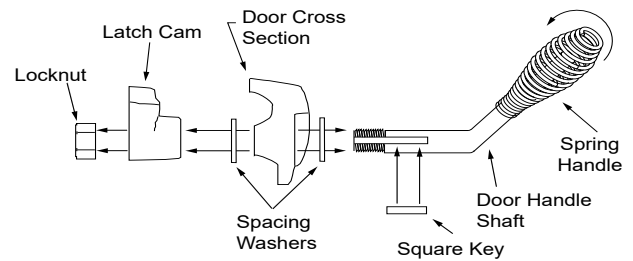

Figure 22.2
3. Install second washer(s) as shown in **Figure 22.2**.
7. Install spring handle turning in a counter-clockwise motion to required 2 inch (51mm) clearance location on door handle rod (**Figure 22.2**).